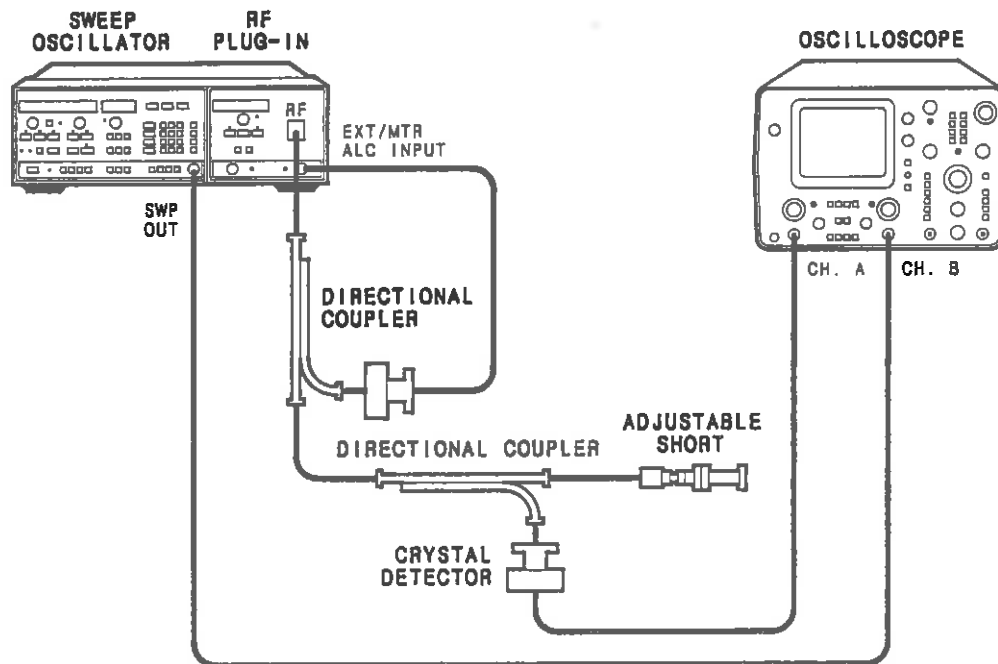

Figure 4-11. Output SWR Test Setup
1. Connect the equipment as shown in figure 4-11. If the RF plug-in is not an Option 001, connect the directional coupler directly to the waveguide RF output connector.